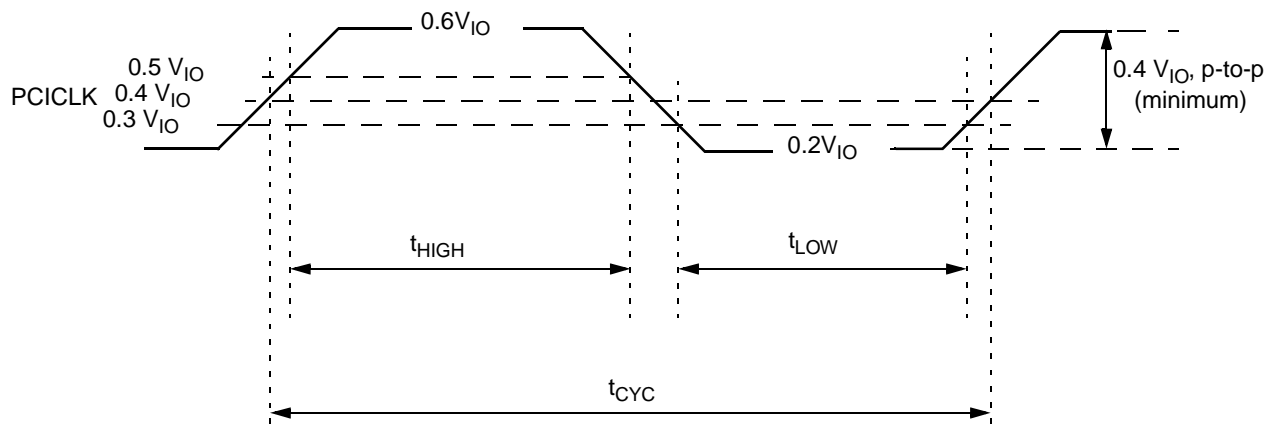

Figure 8-14. PCICLK Timing and Measurement Points
3. Slew rate must be met across the minimum peak-to-peak portion of the clock waveform (see Figure 8-14).